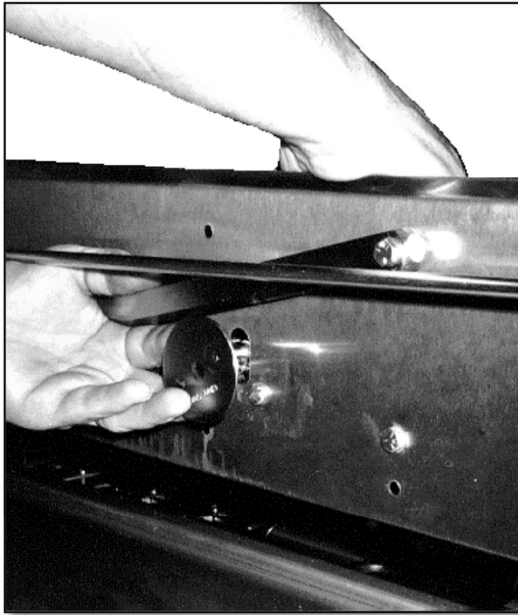

Figure 3 Removing the Turner Cam
4. Swing the turner cam weight up out of position. (See Figure 3).